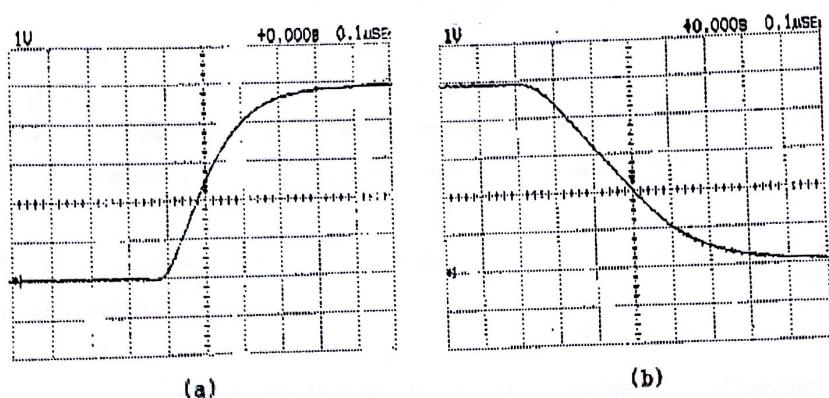

Figure 2-6. (a) Rising time & (b) falling time of pulse
(5) If you set TIME/DIV of oscilloscope to $0.1[\mu\text{s}]$, wave form like as figure 2-6(a) would be appeared. And then set SLOPE to (-) and adjust TRIGGER LEVEL to display like as figure 2-6(b).
- What's the value of rising time measured in figure 2-6(a)?
- What's the value of rising time measured in figure 2-6(b)?
(6) Connect CLK terminal of SIGNAL SOURCE to AUDIO INPUT of PAM module, set VOLT/DIV of oscilloscope to $2[\text{V}]$ and set TIME/DIV to $0.2[\text{ms}]$.